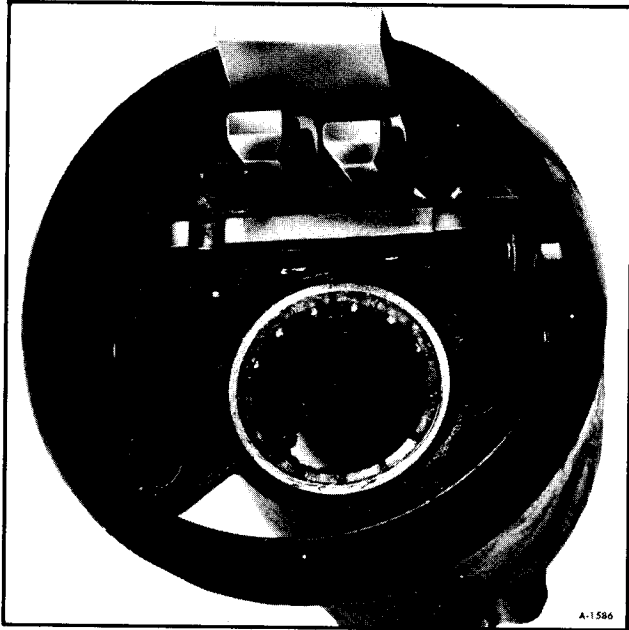

Figure 92—Removing Load on Release Lever
31. Remove tilt release lever pin with pin punch and hammer. Remove lever and release lever spring. (To relieve load on release lever, hold shoes inward and wedge block between top of shoes (over slots and bearing housing) (figure 92).